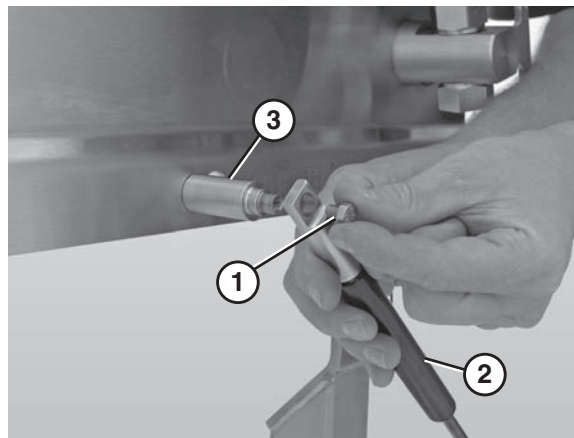

Figure 87
3. Remove the hex bolt (**Figure 87, item 1**) that connects the gas spring (**Figure 87, item 2**) to the gas spring standoff post (**Figure 87, item 3**).
4. Remove the inside hex bolt that connects the standoff post (**Figure 87, item 3**) to the frame.